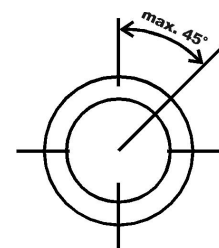

Fig. 1
- ↪ The switches should only be installed in a vertical position, deviation max. 45° (→ Fig. 1).